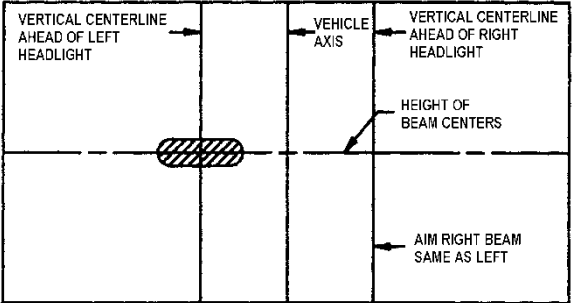

FIGURE 43: PROPER UPPER BEAM HIGH-INTENSITY ZONE AT 25FT 06503
5. High beam headlights are aimed so that the center of the high-intensity zone is located at the horizontal and straight ahead vertically (Figure 43).